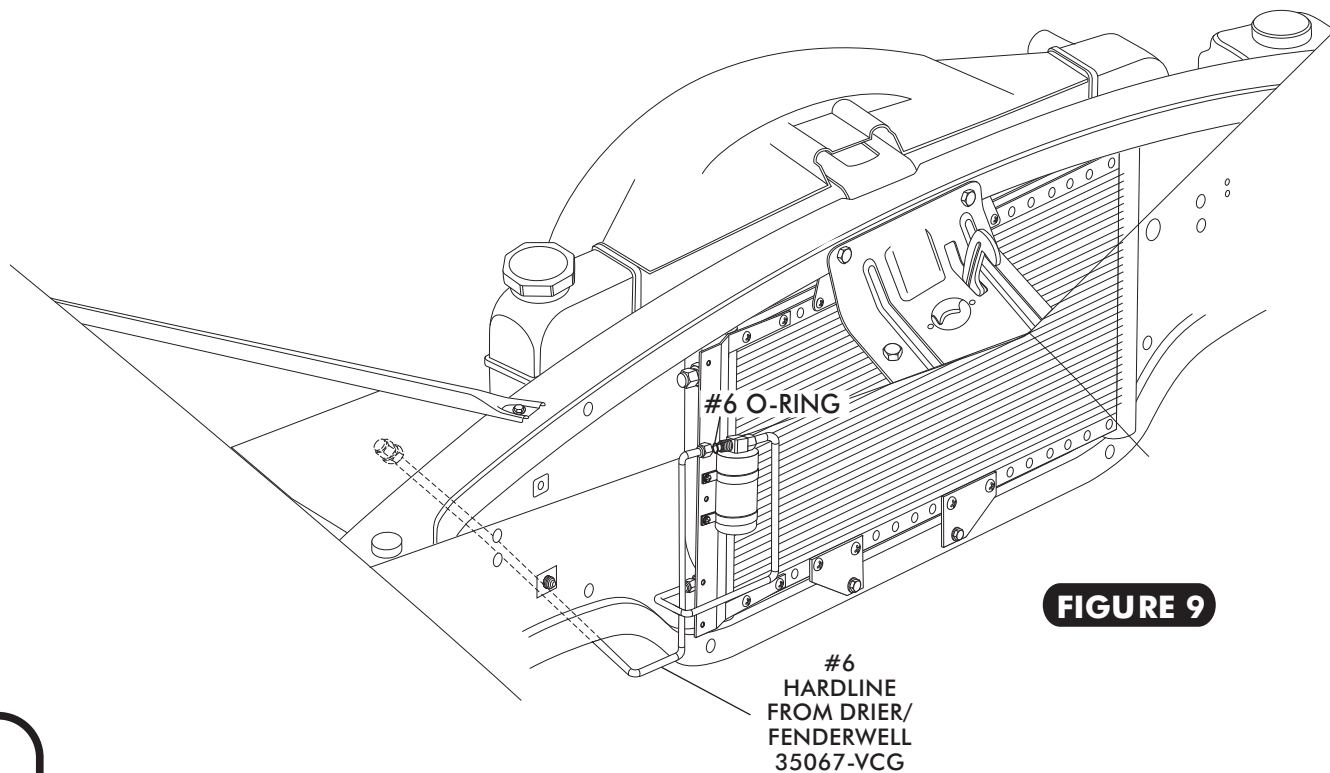

FIGURE 9
- LUBRICATE A #6 O-RING (SEE FIGURE 4a, PAGE 6) AND INSTALL THE #6 DRIER/FENDERWELL HARDLINE AS SHOWN IN FIGURE 9 BELOW. TIGHTEN FITTINGS AS SHOWN IN FIGURE 4a, PAGE 6.